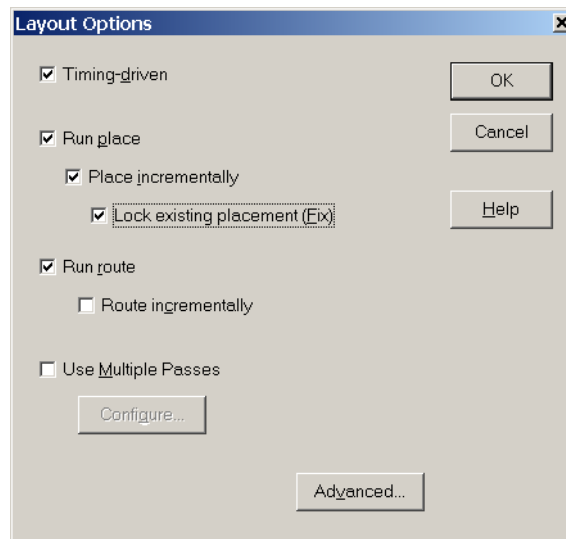

Figure 6 • Place Incremental Fix Mode
- Place Incremental FIX Mode (Figure 6)
- Place Incremental FIX Mode (Figure 6 on page 6)
4. Keep the rest of the constraints and run Place Incremental FIX mode (Figure 6 on page 6).